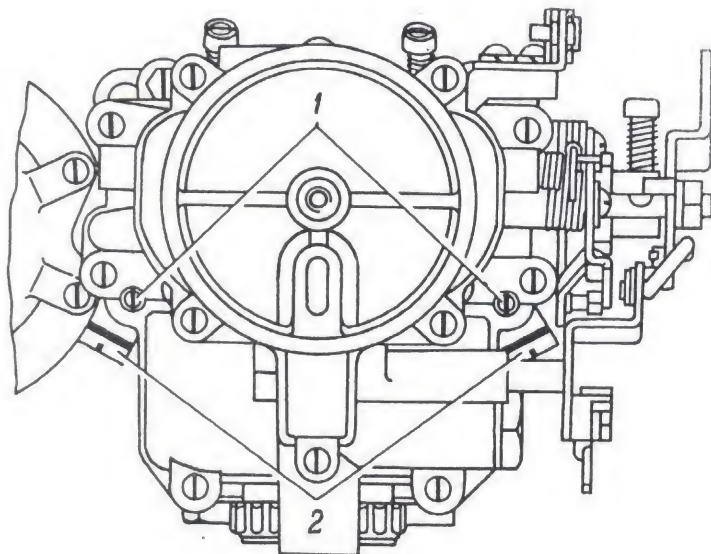

FIG. 19. CARBURETTOR K-126M (PLAN VIEW)
- use the screwdriver to screw out two idle fuel jets 1 (Fig. 19) and blow them through;